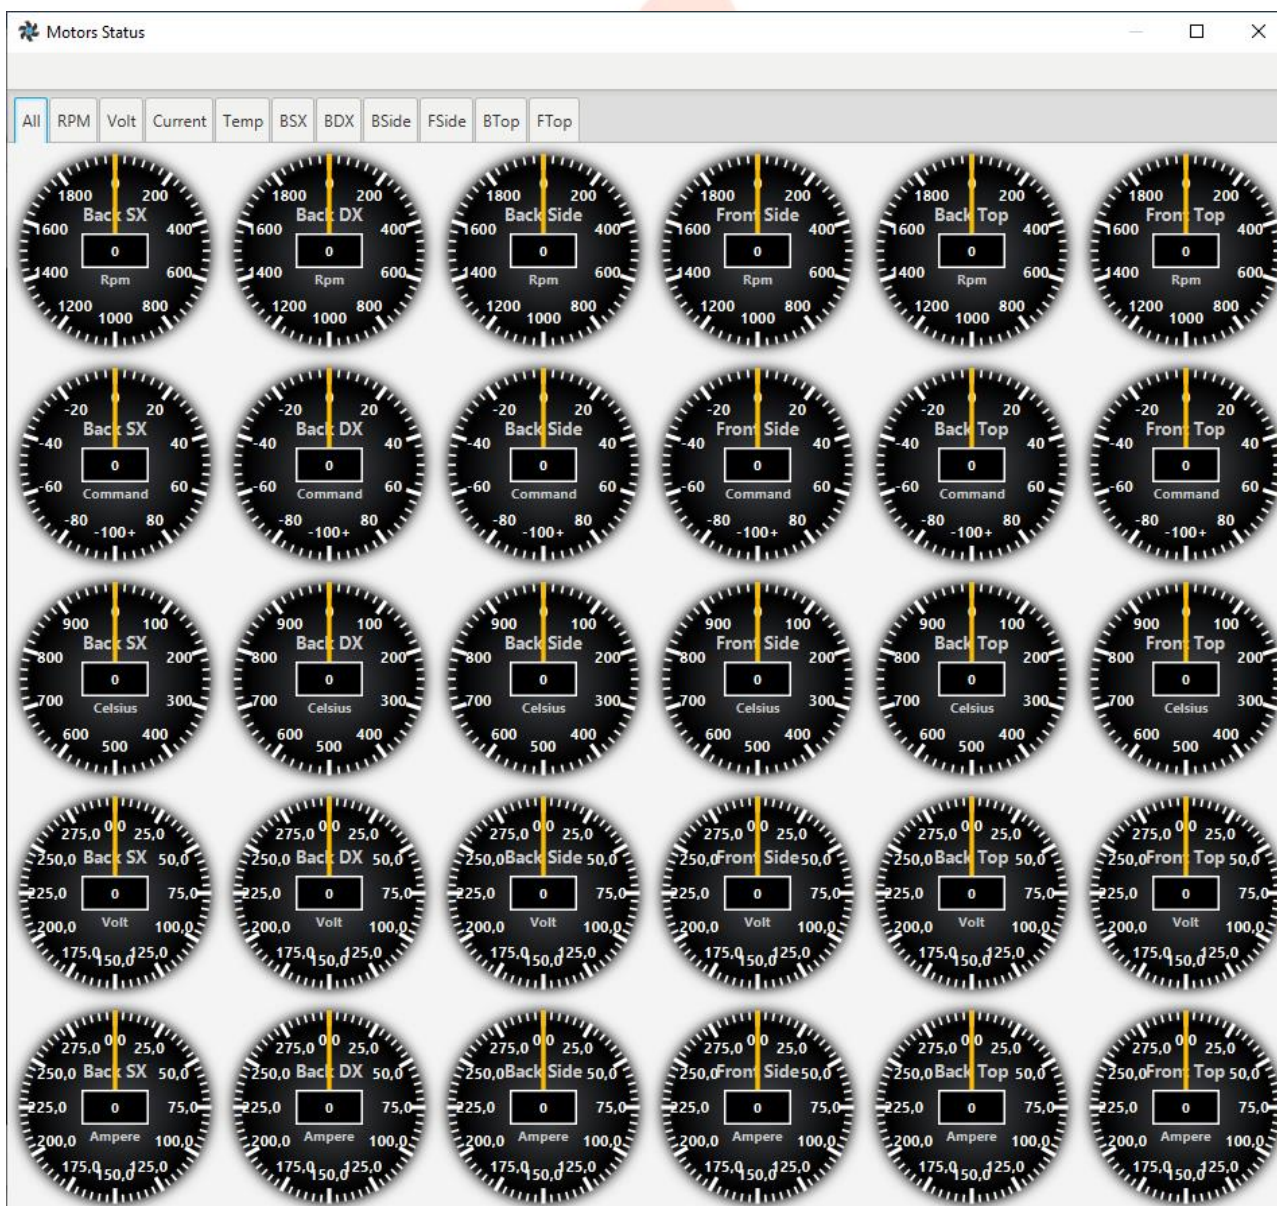

Figure 67 – Motors Status
*All*: displays any parameters of any motors (FIGURE 67 – MOTORS STATUS).